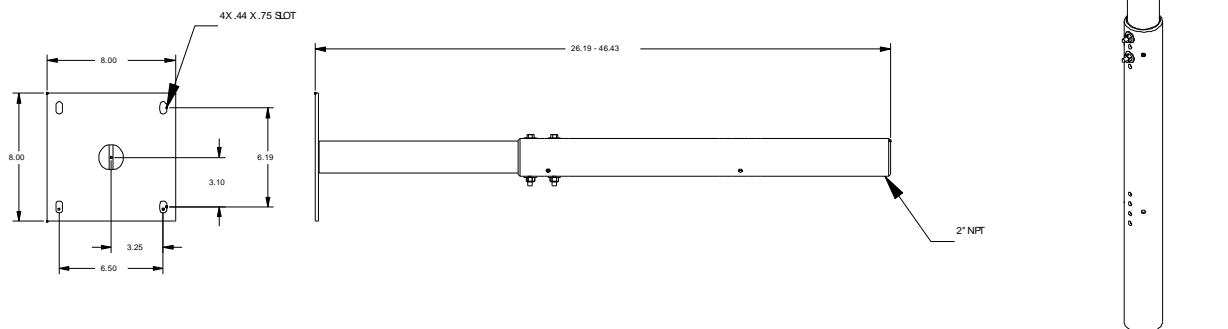

Figure 1. CMA-260 COLUMN TUBE AND CEILING PLATE
1. Securely install ceiling plate to ceiling or joists (see Figure 1). NOTE: SEE WARNING!!